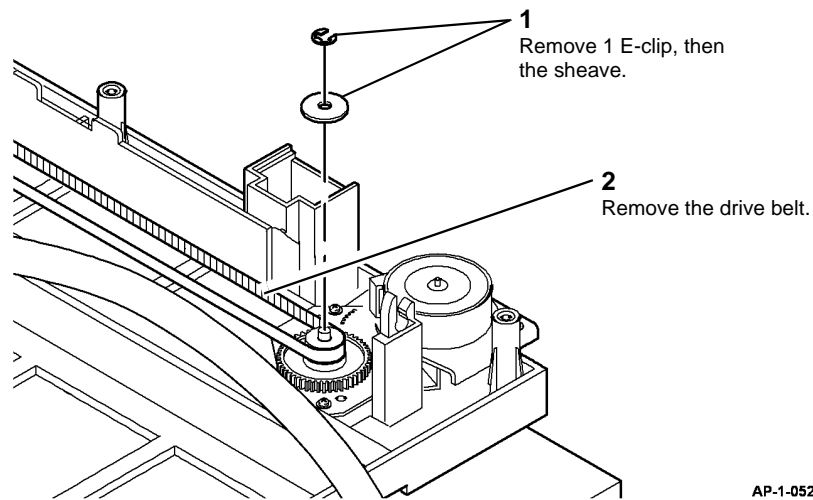

Figure 5 Drive belt removal
- Remove the scanner drive belt, Figure 5.